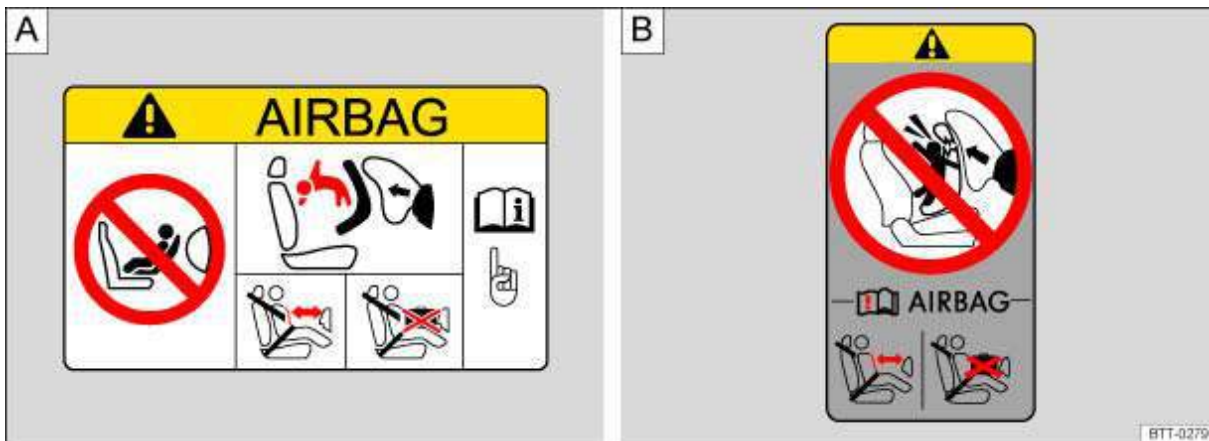

Fig. 66 Typical airbag information stickers on the sun visor (A) and vehicle B-pillar (B)
- On the driver and/or front passenger sun visor → Fig. 66 A.